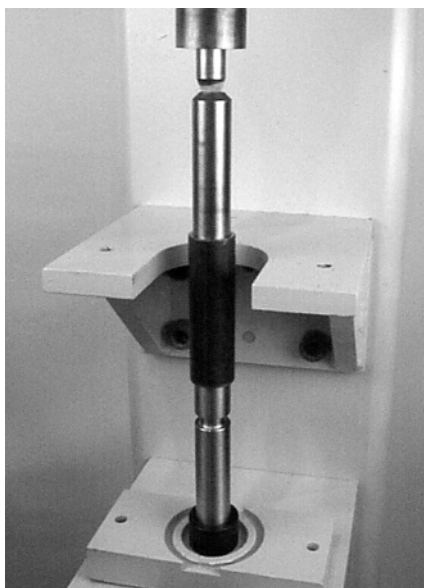

Figure 45
- Using arbor press or similar device, press bearing onto pulley shaft (see Figure 45).